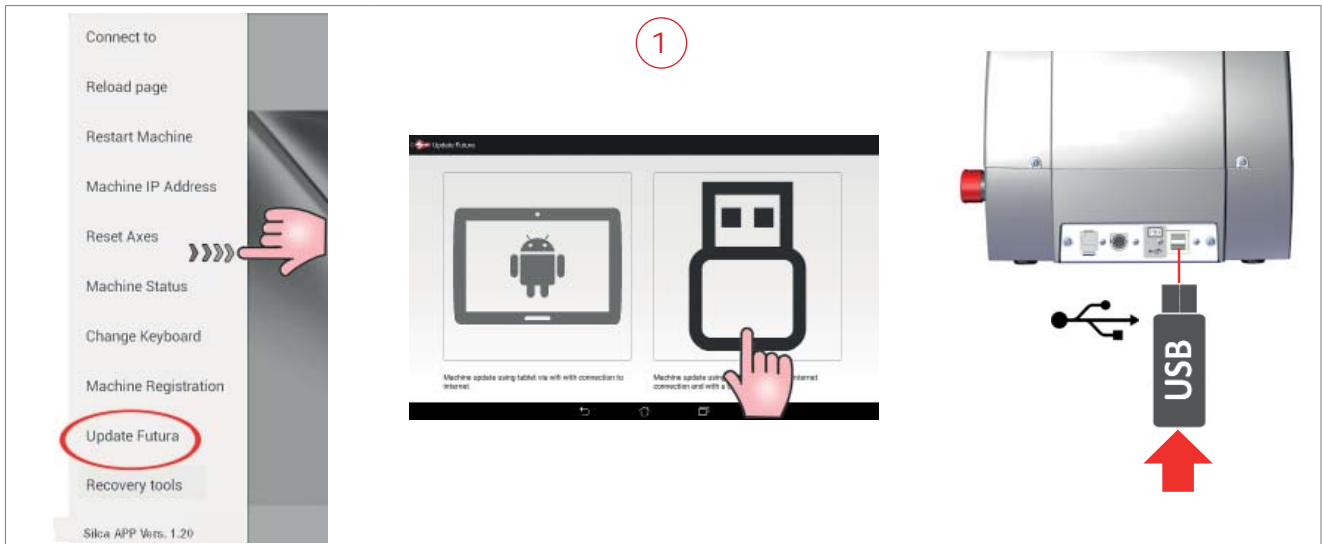

Fig. 18
- 1) Select “Machine update” from the drop-down menu and tap the USB PEN image (Fig. 18). Insert the USB PEN DRIVE into the machine and follow the instructions on the screen.